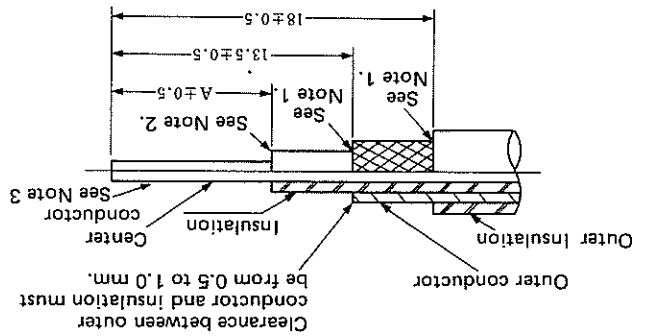

Fig. 2
(1) Strip the outer insulation to 18 ± 0.5 mm from the cable end shown in Figure 2. Cut the outer conductor of the cable to 13.5 ± 0.5 mm. Cut the insulation by dimension "A" specified in the table below.
(2) After preparing the cable per #1, wipe the center conductor with an alcohol-dampened cloth to remove any polyethylene residue from the surface of the center conductor.